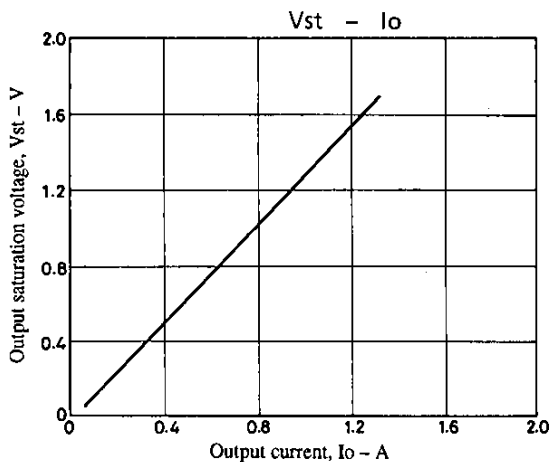

Fig. 8
The characteristic diagrams (typ) for I_{OH} and Vst, and I_{OH} and Vdf are given in Figs. 8 and 9.
Referring to Figs. 8 and 9, each value for Vst and Vdf is determined by expression (10) as follows :